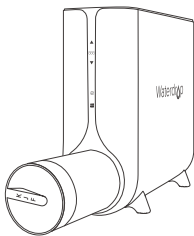
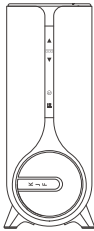

Figure 22
Figure 23
- (3). Install the new filter. Put the new one into the filter barrel. The filter handle is perpendicular to the display bar. **(Figure 22)** Then rotate 90° clockwise until the filter handle is in line with the display bar. **(Figure 23)**